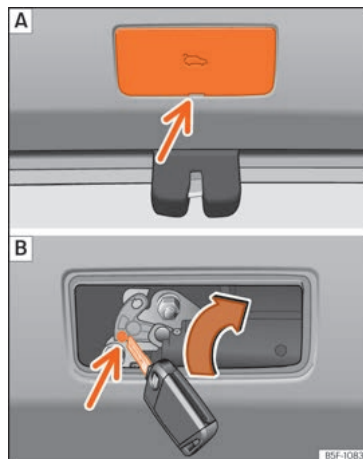

Fig. 10 Luggage compartment: access to manual release.
- Remove the cover by inserting a screwdriver in groove » » » Fig. 10 A.
- Insert the key into the opening and turn it in the direction of the arrow until the latch » » » Fig. 10 B has been released.